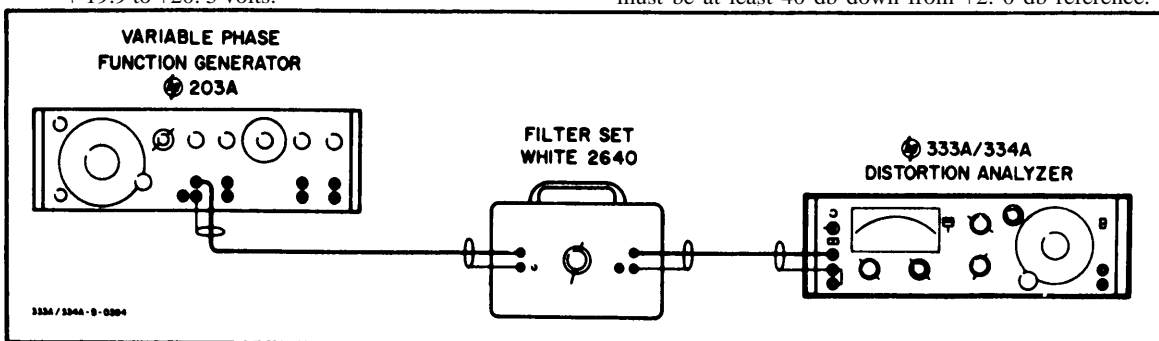

Figure 5-9. A3R16 and A3R30 Distortion Adjust Test Setup
Paragraphs 5-28 to 5-29 and Figure 5-9
- a. Connect test equipment to the 333A/334A as shown in Figure 5-9.